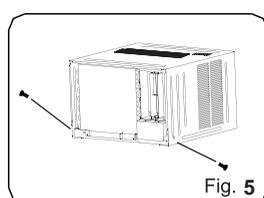

Fig. 5
1. Remove the screws fix the chassis-fixing board and cabinet. some Models have two more screws on the back of the cabinet. (see Fig.5)
5. Fix the chassis and cabinet. (see Fig.5)